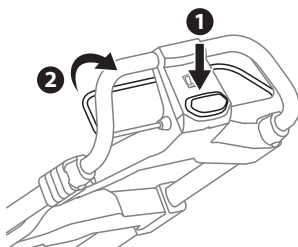

Fig. 8
2. Press and hold the start button (1, Fig. 8).
3. While holding the start button, grasp the safety control bar (2, Fig. 8).